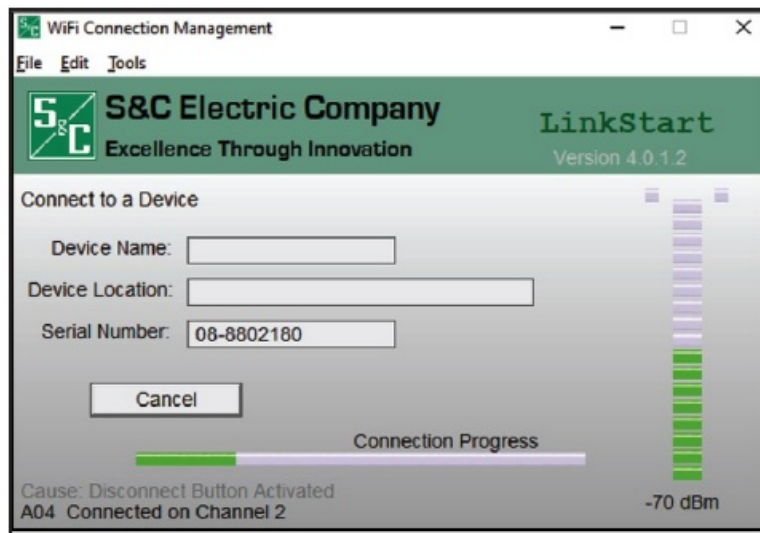

Figure 15. The Wi-Fi connection Management dialog box.
- **STEP 4.** For Wi-Fi connections, LinkStart software starts and the device serial number must be entered in the Serial Number field. Then, click on the Connect button. See Figure 15.